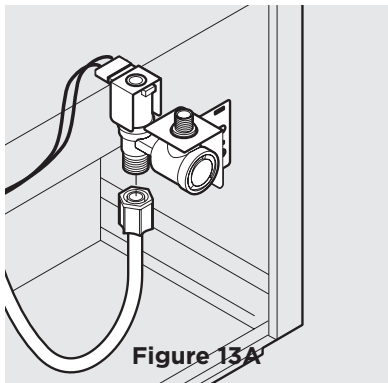

Figure 13A
- You can use 2 types of water valves with this kit. Follow the instructions which apply to the type of valve supplied with your kit. See Figures 13A and 13B.
For valves with a threaded outlet (Figure 13A), push the bullet-shaped end of the green tube into the valve and tighten the plastic nut (finger tight). Then tighten it an additional 1/2 turn with a wrench. **DO NOT** overtighten.